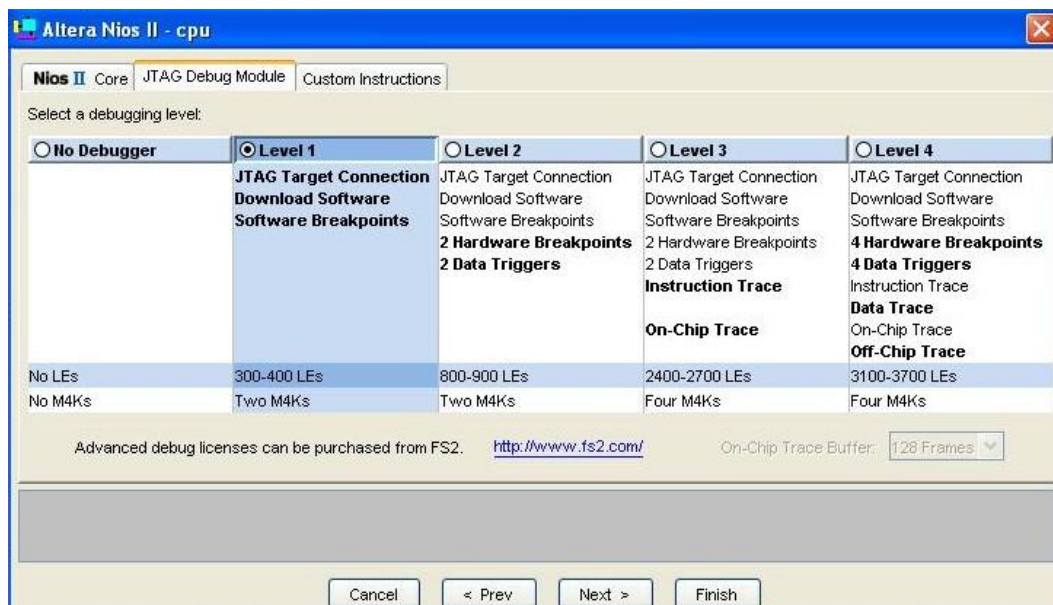

Figure 2: Set up JTAG Debug Module
- Set the JTAG Debug Module by double-clicking on the **cpu** component. The **Altera Nios II** window appears as shown in Figure 2.